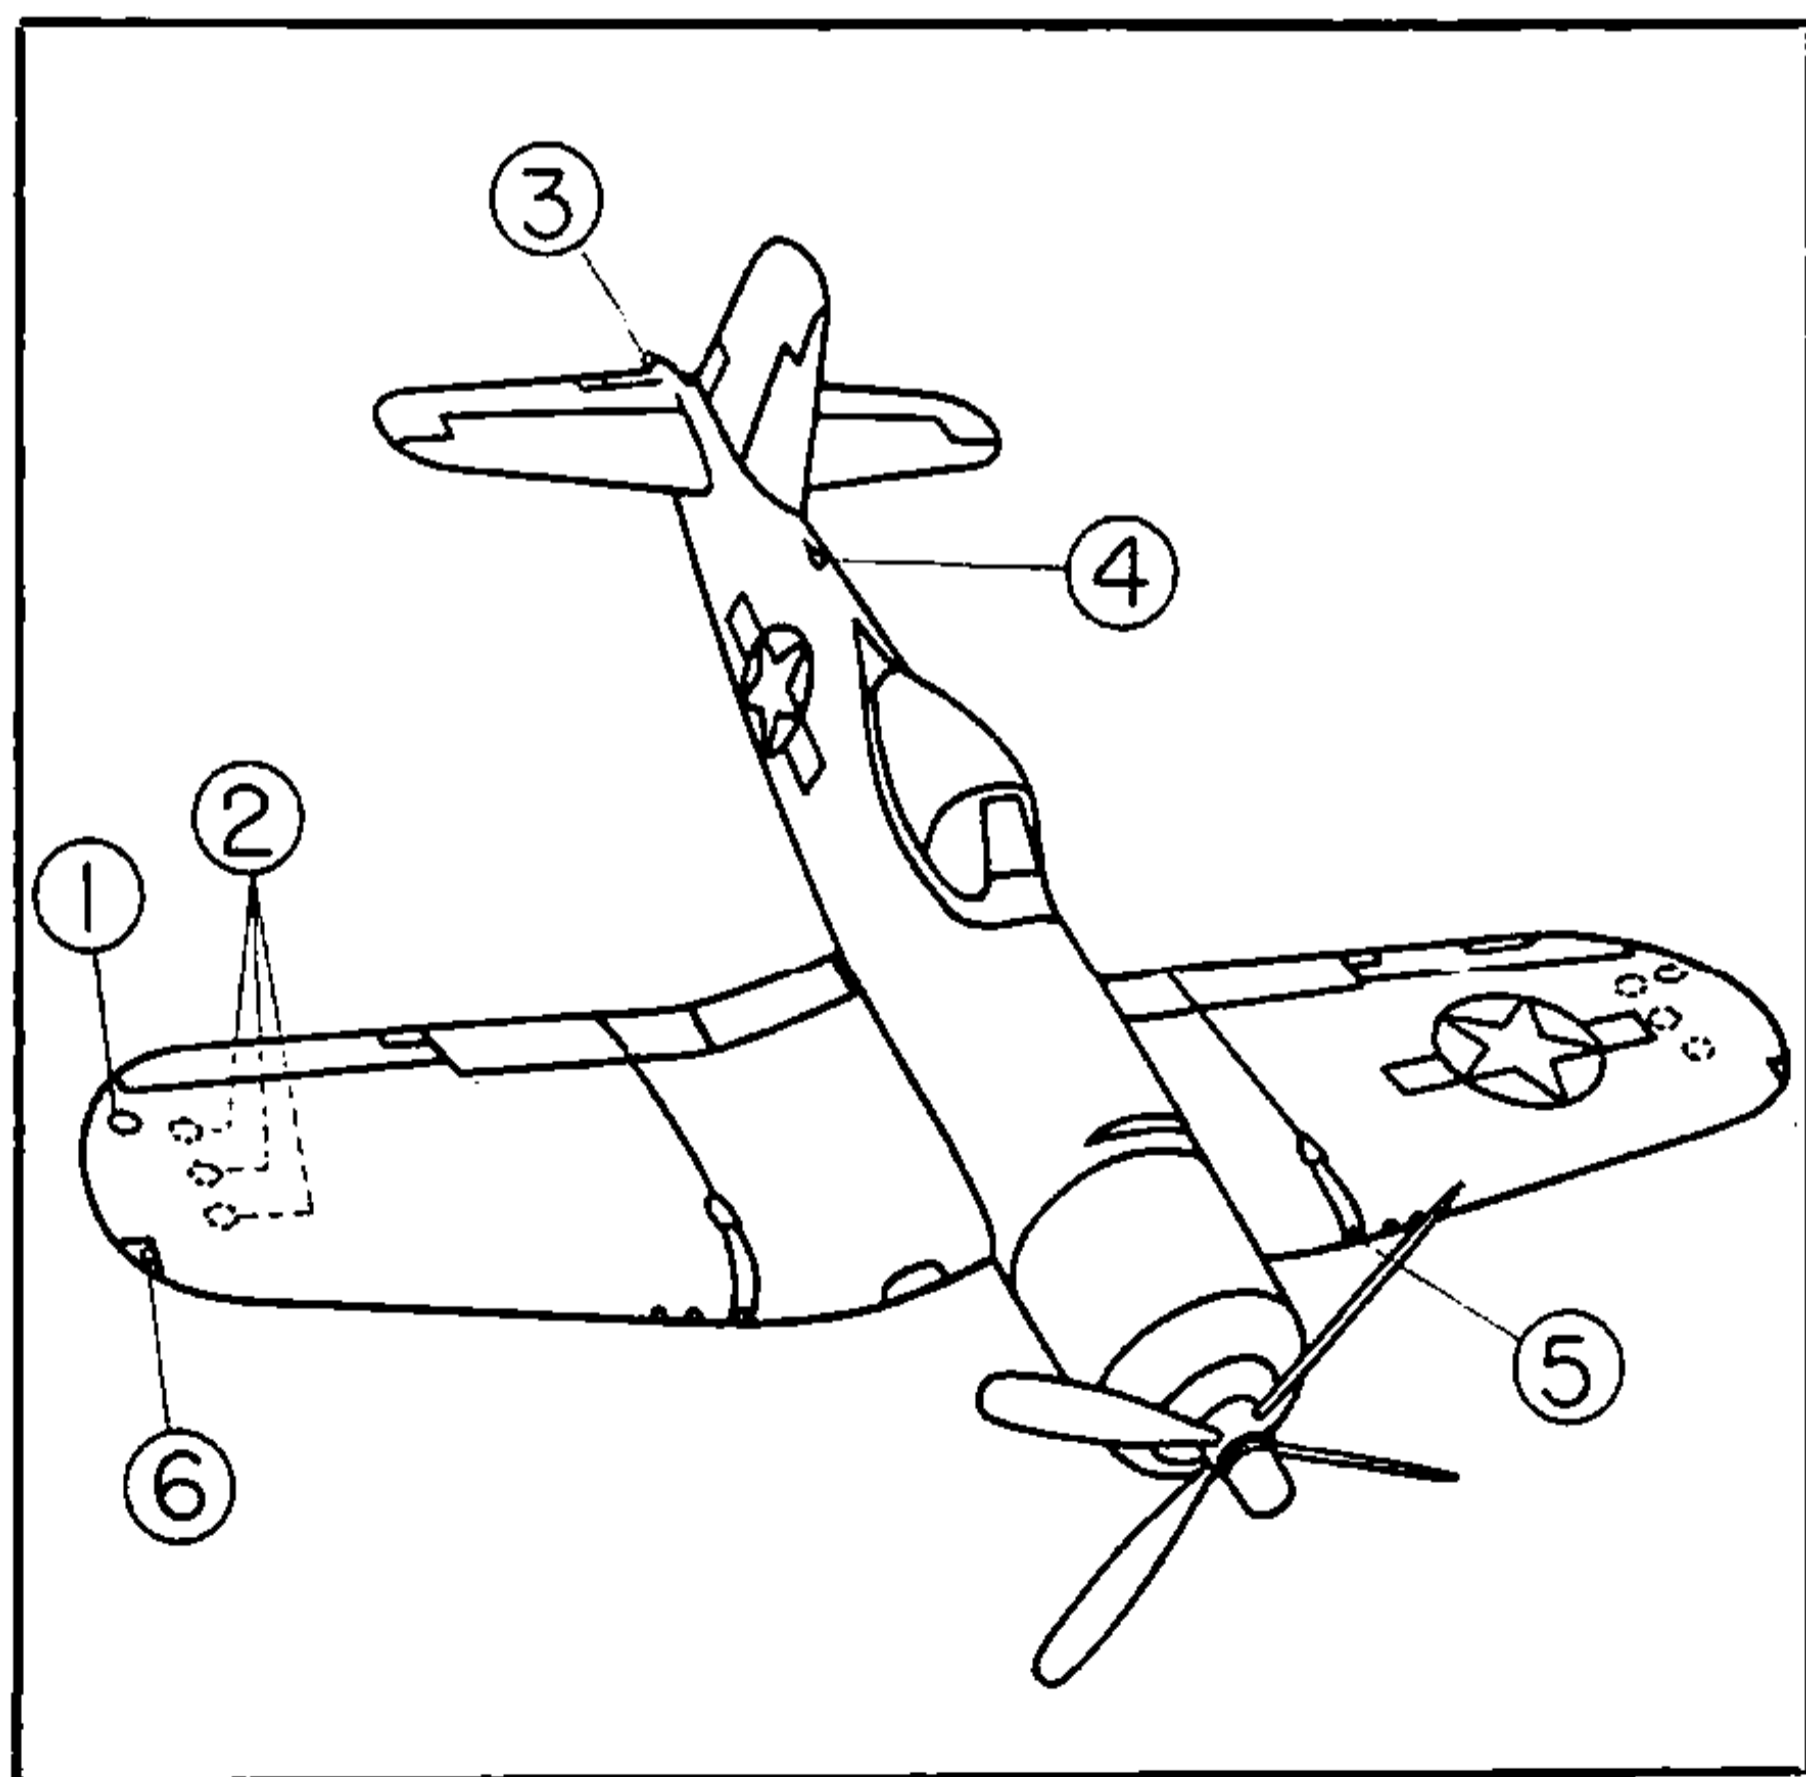

Figure 45 — Exterior Lights
(4) **EXTERIOR LIGHTS.** (See figure 45.) — The F2G has five types of external lights — formation, section, running, tail and approach. (The outer panels have complete recognition light installations, although these are not connected with the electrical system.) The approach light is controlled by a manual switch in the left wheel well. In the F2G-2 it is controlled automatically by a microswitch on the arresting hook so that it is on whenever the airplane is in carrier-approach condition. All other exterior lights have individual switches on the electrical control panel, each switch